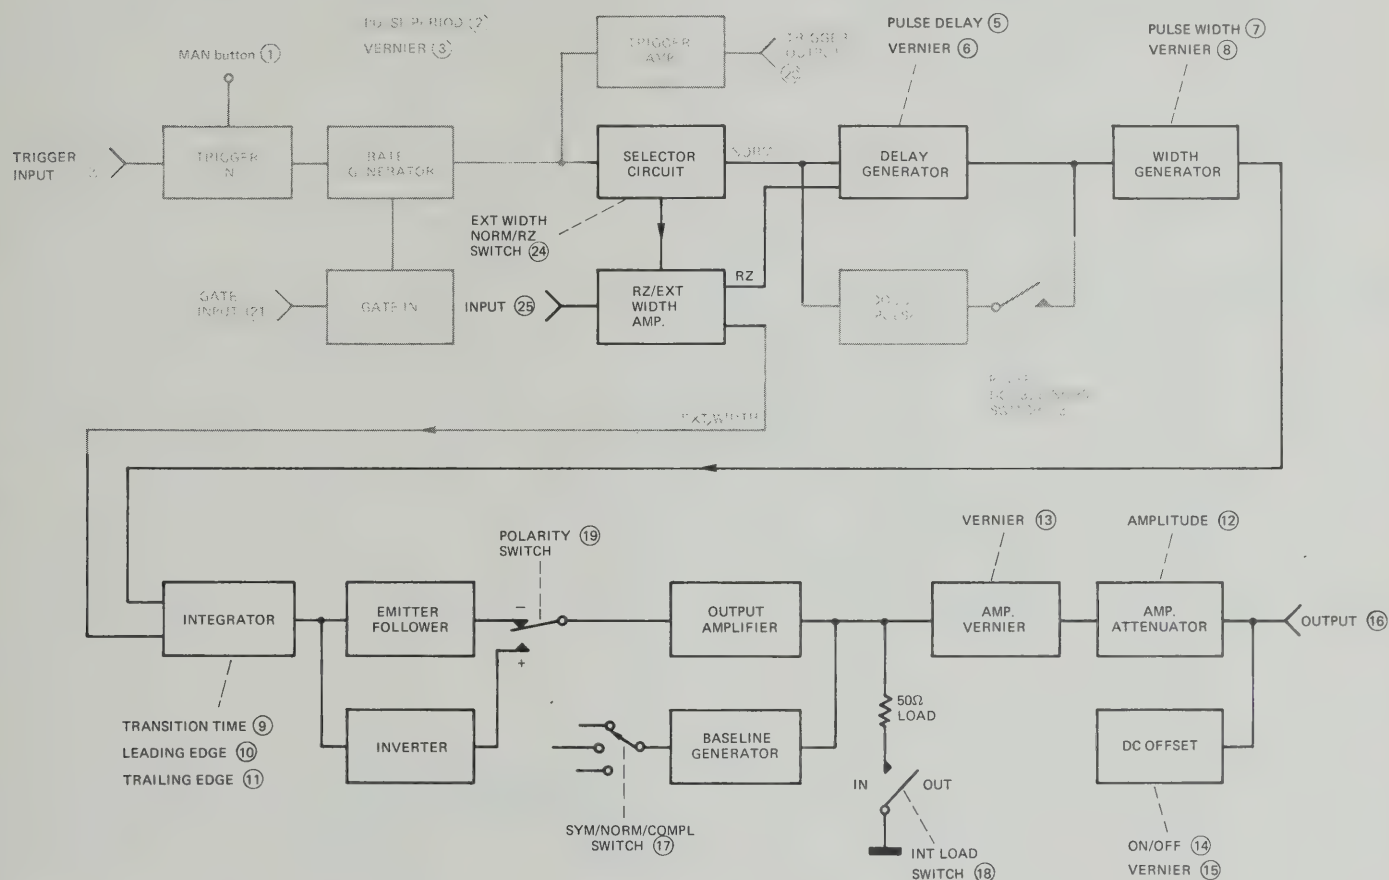

Figure 3-18. RZ mode – block diagram
3-40 In RZ mode external pulses, applied to the INPUT connector (25) on the 8012B rear panel, trigger the delay generator directly (see figure 3-18). and the shape of the output pulses is determined by the pulse forming circuits following the delay generator. The
3-41 The circuits and controls involved in RZ mode are shown in Figure 3-18.